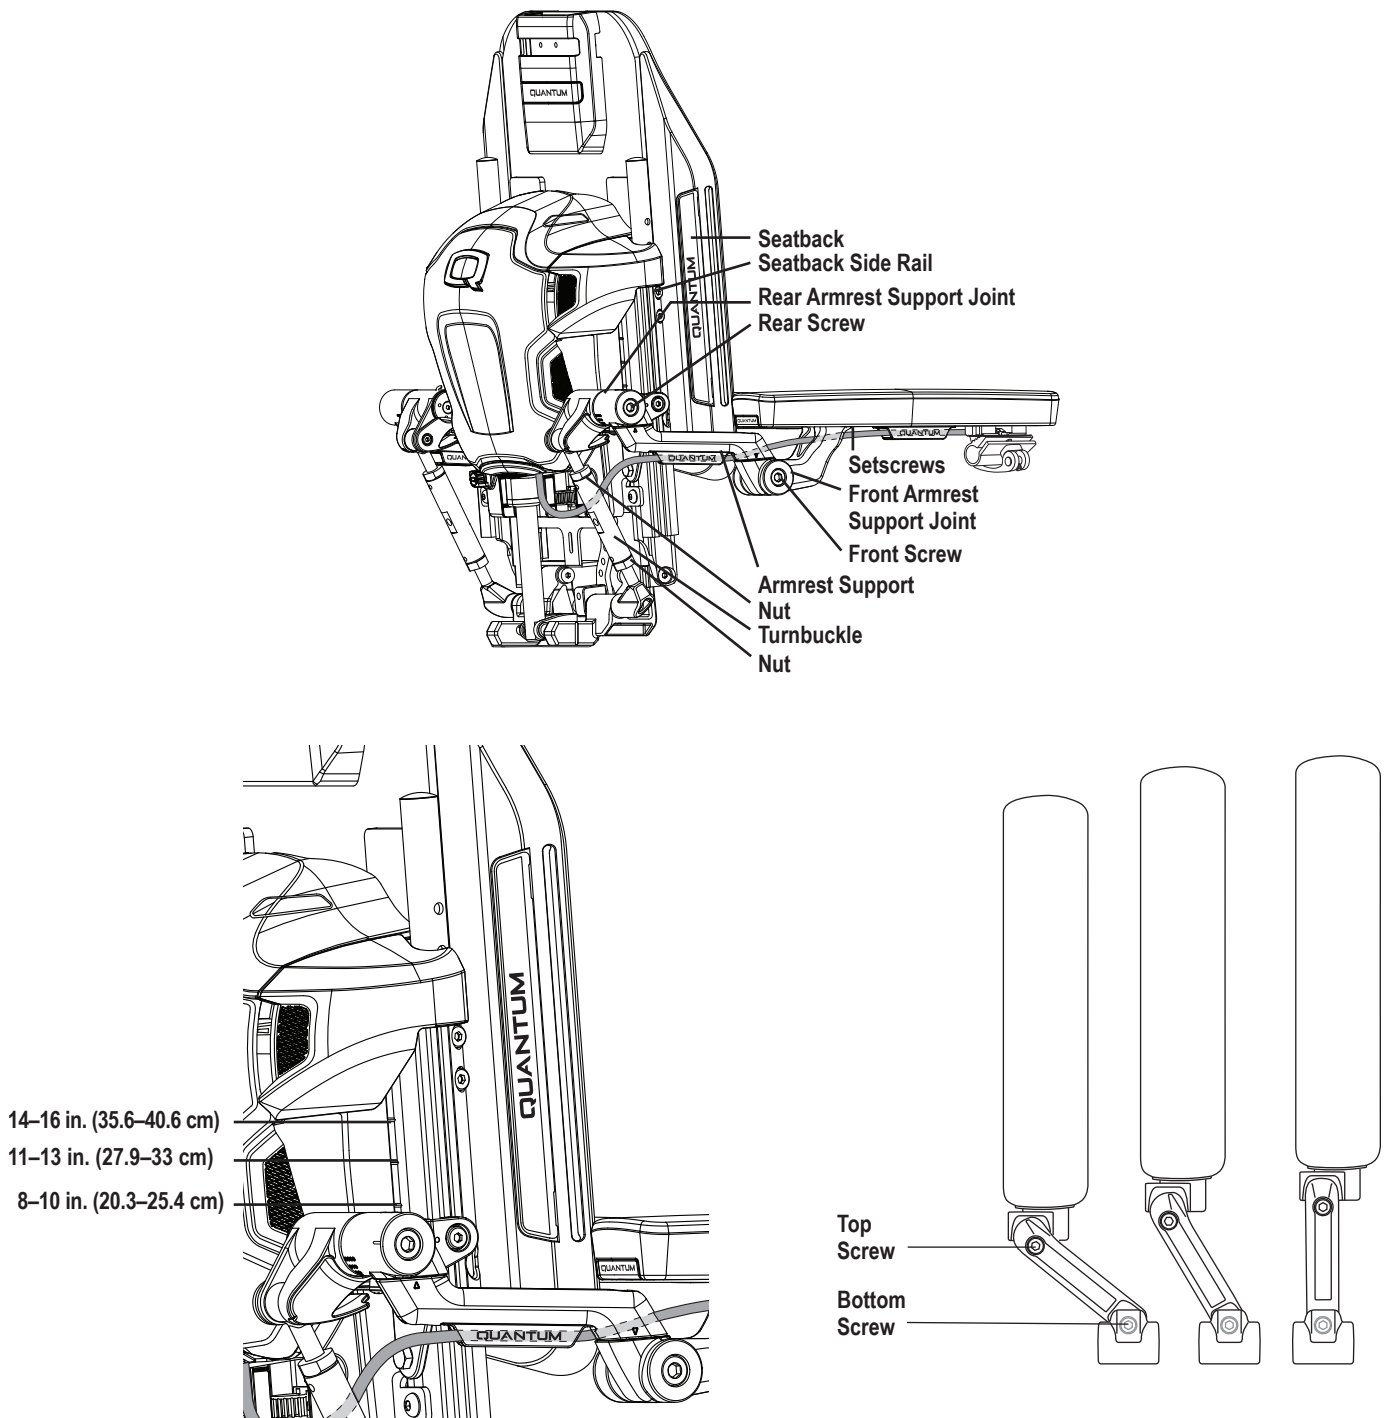

Figure 9. Flip-up Armrest Height and Angle Adjustments
2. Loosen rear screw on rear armrest support joint. **See figure 9.**
3. Make sure on seatback side rail your rear pivot link is mounted to proper height relative to back. **See figure 9.**
5. Raise or lower the armrest to set armrest to the desired height or location mark. **See figure 9.**
7. Loosen front screw on front armrest support joint. **See figure 9.**
9. Tighten front screw on front armrest support joint. **See figure 9.**
2. Loosen nut, if necessary. **See figure 9.**
4. Tighten front screw on front armrest support joint. **See figure 9.**
5. Tighten nut if necessary. **See figure 9.**
1. Loosen bottom screw underneath the rear of the armrest support and adjust to the desired width. **See figure 9.**
3. Loosen top screw on top of armrest support joint and adjust to make the armrest perpendicular to the seat pan. **See figure 9.**
2. Remove the rear screw of the rear armrest support joint. **See figure 9.**
1. Support the weight of the armrest. **See figure 9.**